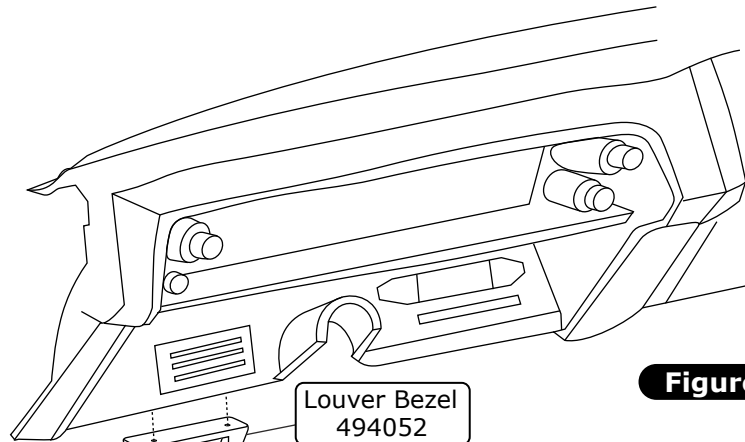
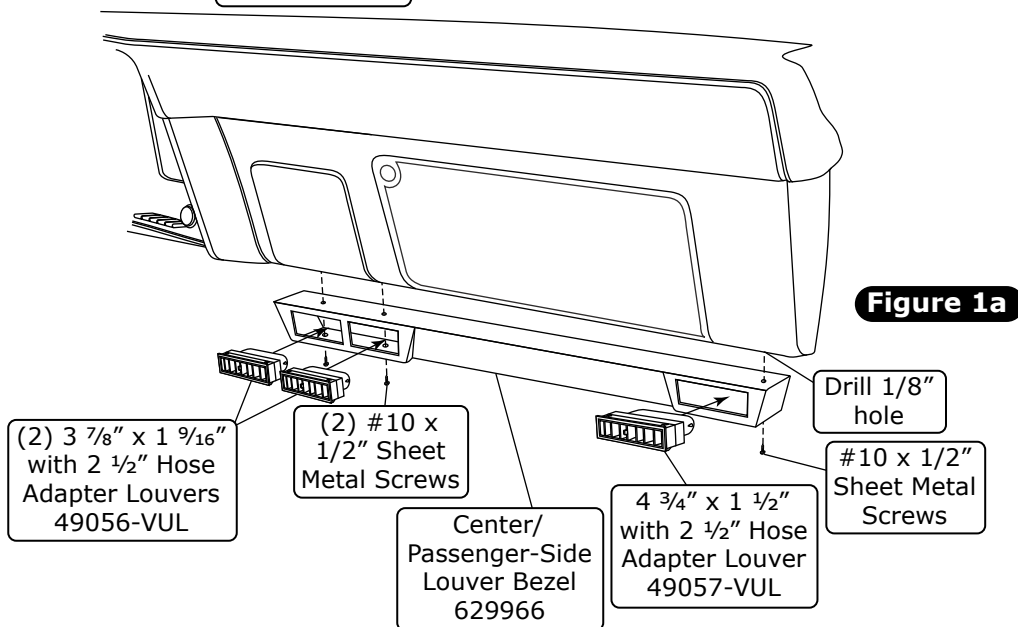

Figure 1
Figure 1a
1. Install the driver-side louver bezel using (2) #10 x 1/2" sheet metal screws as shown in Figure 1, below.
2. Install the louver in the driver-side louver bezel (See Figure 1, below).
3. Align and install the center/passenger-side louver bezel under the dash using (3) #10 x 1/2" sheet metal screws as shown in Figure 1a, below.
4. Install the louvers in the center/passenger-side louver bezel as shown in Figure 1 and Figure 1a, below.